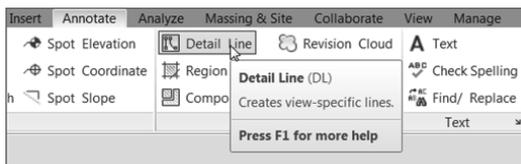

FIGURE 10.34: Click the Detail Line button on the Annotate tab.
5. Sketch a landing that is 8'-0" (2400 mm) long × 7'-10" (2350 mm) wide. Center it on the reference plane, as shown in Figure 10.34.